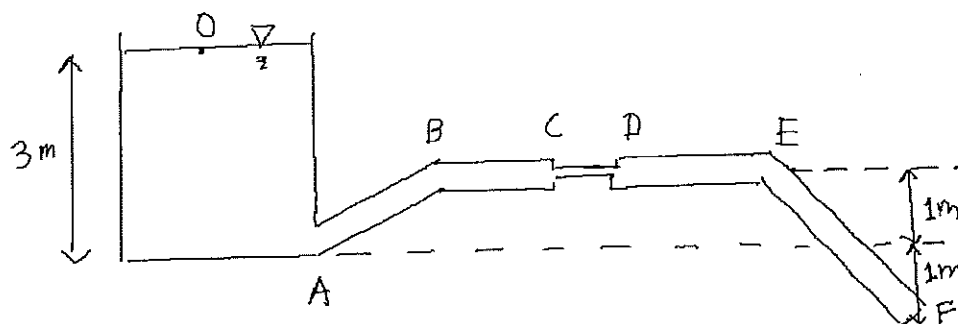

Figure 3
3) Water is discharged from a large tank to the atmosphere through a pipeline ABCDEF, as shown in Figure 3. The pipes AB, BC, DE and EF have a diameter of 2 cm , while the pipe CD has a diameter of 1 cm.